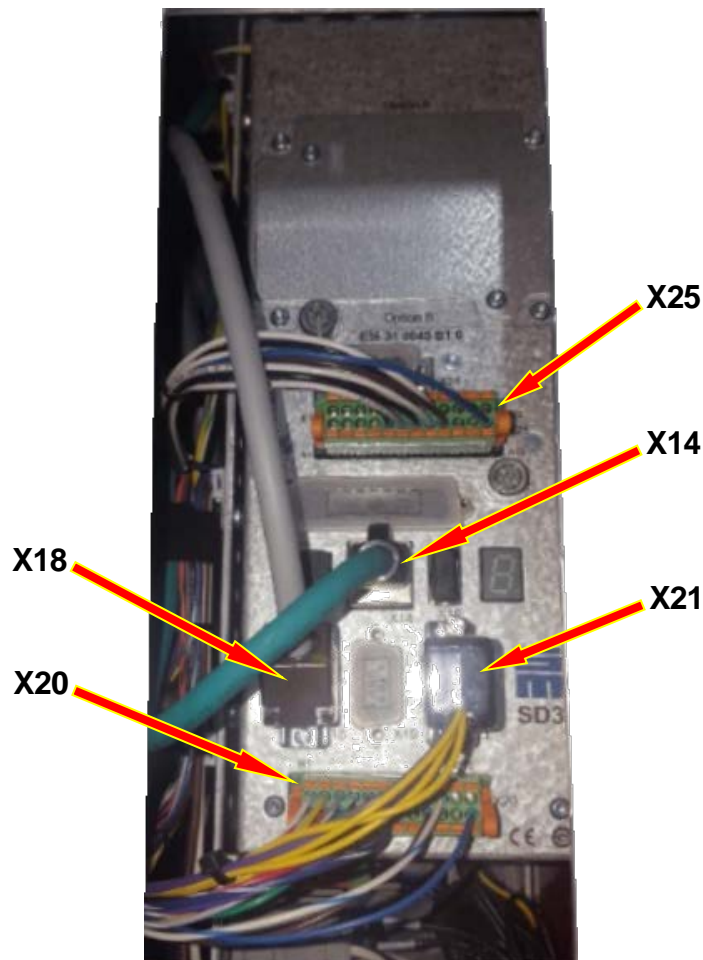

Figure 1
- A) Remove all of the connectors attached to the top of the old drive. See Figure 1.